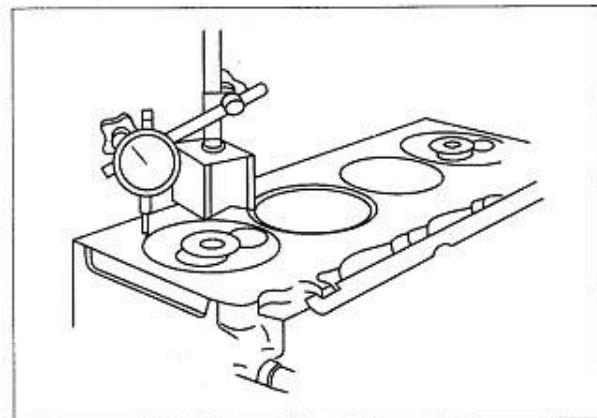

Figure 3-6 Measurement of Protrusion Height of Piston Top
- (1) Clean off carbon deposition on the top of piton and gasket on the top surface of cylinder block carefully.
- (2) Measure of protrusion height of piston on 1.3 spots of piston top surface and 2, 4 spots of cylinder block top surface with indicator (see Figure 3-6, 3-7). Each cylinder must be measured.
- (3) Record highest value, and use this value to select the thickness of cylinder head gasket.